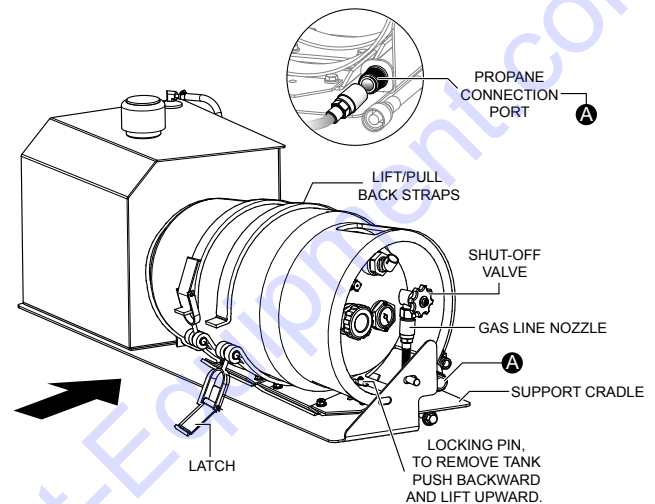

Figure 16. Propane Tank Removal
2. **CLOSE** the shutoff valve on the propane tank (Figure 16).